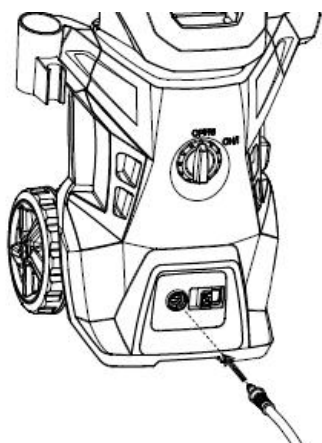

Fig.3
Attach the high-pressure hose (11) to the water outlet of the high-pressure cleaner, located at the front of the machine (fig.3). Quickly insert and connect to avoid leakage. When the parts are properly assembled, you cannot pull the pipe apart. Press the button next to the inlet, in the direction of the arrow, then you remove the high-pressure hose (Fig. 3). Attach the high pressure hose (11) to the gun (9) (fig. 4). When the hose is correctly assembled, you cannot remove it by pulling on it (11). To remove the hose from the gun, press the lock button on the gun, then remove the hose.